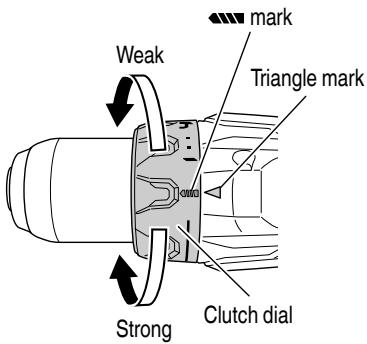

Fig. 11
6. Confirm the clutch dial position (See Fig. 11).
(2) Tightening torque indication (See Fig. 11, 13)
(3) Adjusting the tightening torque (See Fig. 11, 13)